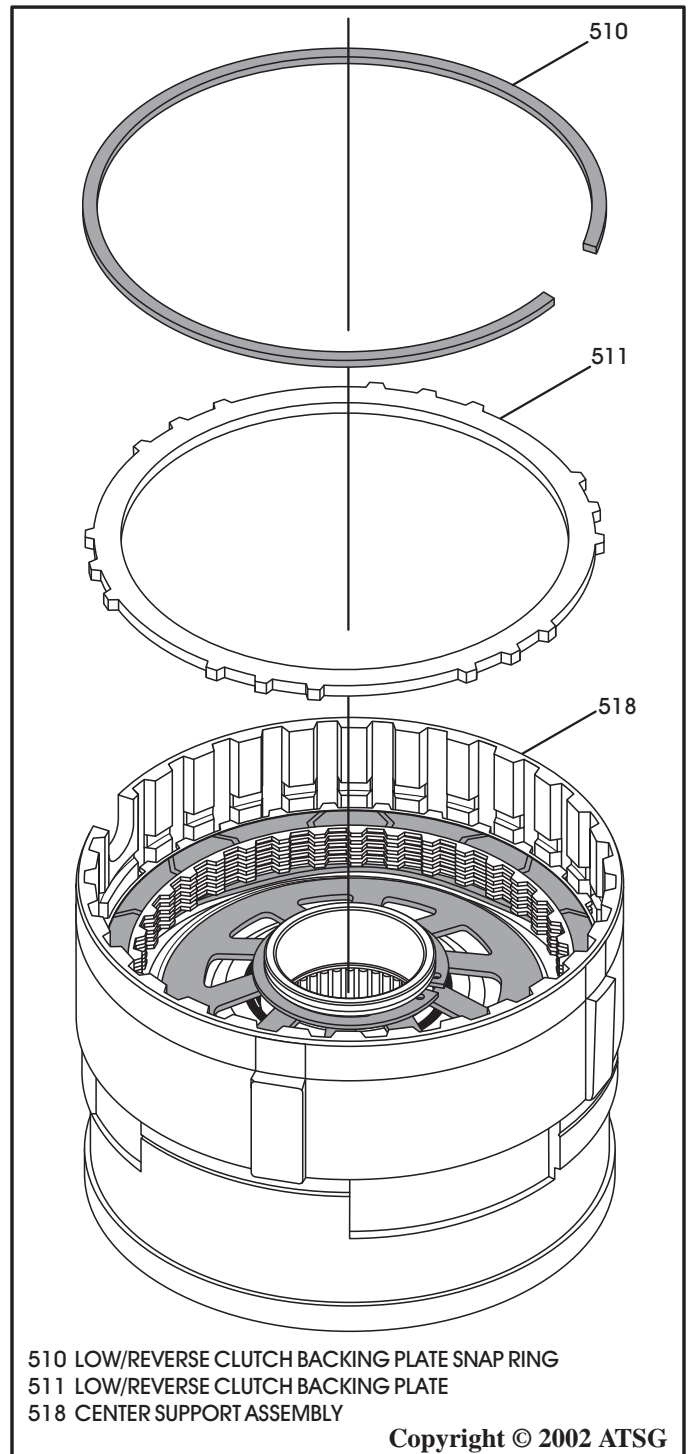

Figure 137
12. Install the low/reverse backing plate, as shown in Figure 137.
13. Install the "Selective" backing plate snap ring, as shown in Figure 137, and ensure that snap ring is fully seated against the top of snap ring groove in the center support.